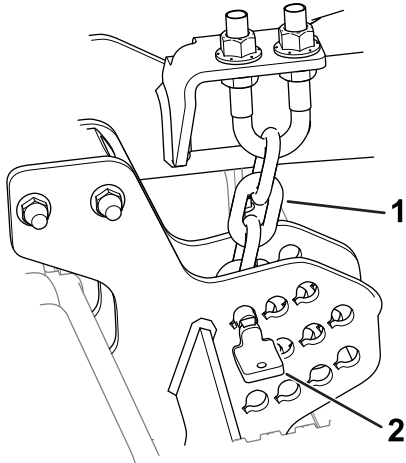

Figure 10
1. Remove the pins that secure the height-of-cut chains to the rear of the cutting unit (Figure 10).
The pin should be installed in the lowest height-of-cut chain link. The chain should hang straight down (Figure 10); it should not be twisted.